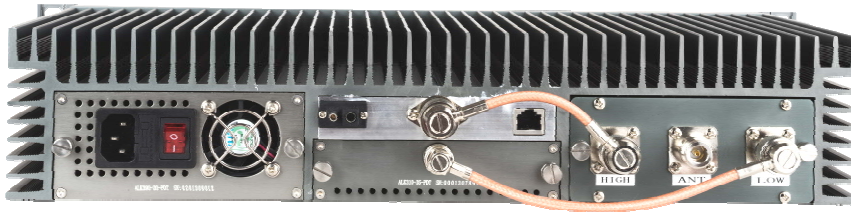

Figure 3-Cabling Diagram
* Connect the corresponding ports with feeders. Connect the antenna at the ANT port, as shown in the diagram below. You need to use three feeders at ①②③ connections.
* Take care to the matchness of the ports, or it may cause damages to the ports. See the completion of the connection in Fig. 3 (only for the case when the TX frequency is higher than the RX frequency).